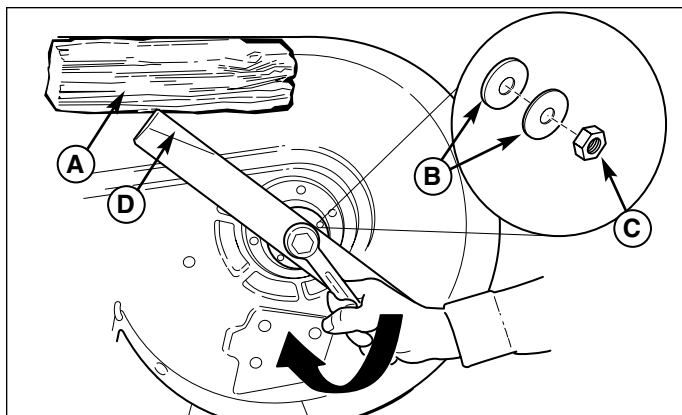

Figure 3. Blade Installation
3. Remove the blade nut (C, Figure 3), spring washers (s), and blade (D).
4. Reinstall the new blade with the lift wings (D, Figure 3) pointing up toward the mower deck as shown.
5. Reinstall the spring washers (B, Figure 3) and blade nut (C). Use a wooden block (A) to prevent blade rotation while tightening the blade nut (C) to 70-80 ft. lbs. (95-108 Nm). Turn blade nut clockwise to tighten.